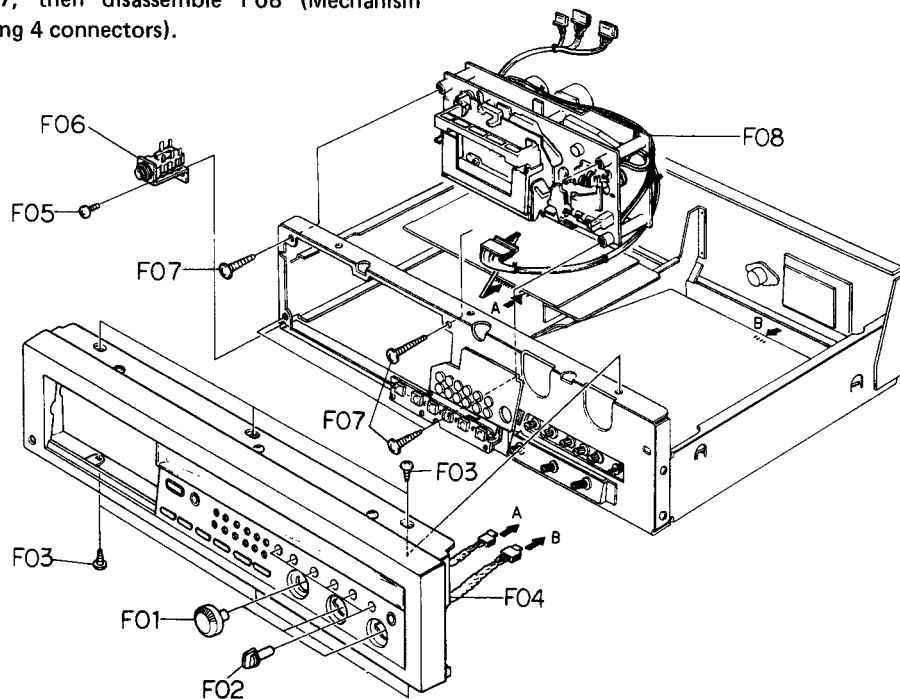

Fig. 3.2
Refer to Fig. 3.2.
- (1) Refer to Fig. 3.2. Remove Front Panel Ass'y referring to item 3.4.
- (2) Remove the flat cable, connectors and wires connected by wrapping from F04 (Main P.C.B. Ass'y).
- (3) Remove F01, F02 and F03, then disassemble F04 (Main P.C.B. Ass'y).
- (2) Remove the connectors and wires connected by wrapping from F06 (Logic P.C.B. Ass'y).
- (3) Remove F05, then disassemble F06 (Logic P.C.B. Ass'y).
- (2) Remove F10, then disassemble F11 (Volume P.C.B. Ass'y).
- (2) Remove F12, then disassemble F13 (Control Button Ass'y).
- (2) Remove F14, then disassemble F15 (Record Cal. P.C.B. Ass'y).
- (2) Remove F01 and F02, then disassemble F03 (Meter Ass'y).
- (1) Refer to Fig. 3.2. Remove Mechanism Ass'y referring to item 3.5.
- (2) Push the Eject Button to open the Cassette Case Ass'y.
- (3) Remove F01, then disassemble the piston of the Air Damper Ass'y.
- (4) Remove F02 and F03, then disassemble F04 (Cassette Case Ass'y).
- (3) Remove F05, then disassemble F06 (Cover Plate).
- (2) Remove F07, then disassemble F08 (Tape Counter Ass'y).
- (2) Remove F01 and F02, then disassemble F03 (Flywheel Holder Ass'y) and F06 (Capstan Belt).
- (3) Remove F04, then disassemble F05 (Capstan Motor Ass'y).
- (4) Remove F07 (Supply Flywheel Ass'y), then disassemble F08 (Take-up Flywheel Ass'y).
- (5) After removing both Flywheel Assemblies, disassemble F09 (Thrust Washer 3.1 mm), F10 (Thrust Washer 2.6 mm), F11 (Flange Thrust Caps) and F12 (Flywheel Thrust Springs).
- (2) Remove Flywheel Holder Ass'y and both Flywheel Assemblies referring to above item 3.20.
- (3) Remove F01 and F02, then disassemble F03 (Sub Mechanism Chassis Ass'y).